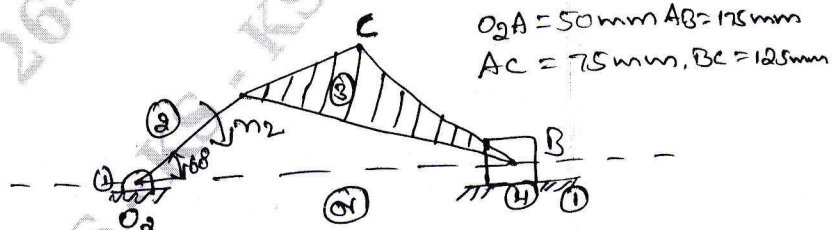

Fig Q3
- 3 In the mechanism shown in Fig Q3 crank 2 rotates out 300 rpm. Find the acceleration of point C in magnitude, direction and sense. Find also the angular acceleration of link 3.